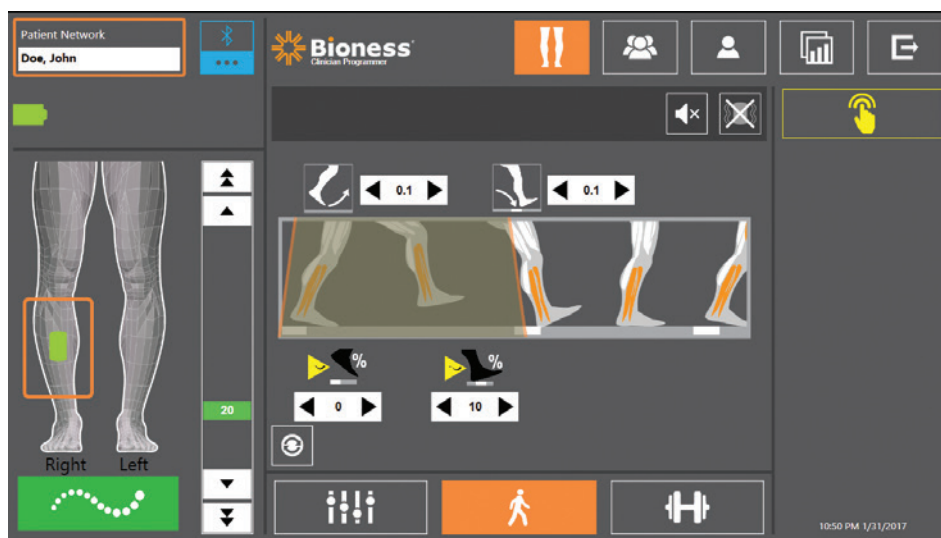

Figure 9-6: Programming Stimulation, Gait Settings Screen
3. The Gait Settings Screen will open. See Figure 9-6.